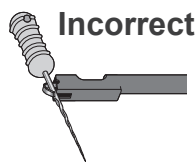

Figure 2
- Do not clip a file or reamer as shown in figure 2. Otherwise, an accurate apex location cannot be obtained and the tip of the file holder will be damaged.